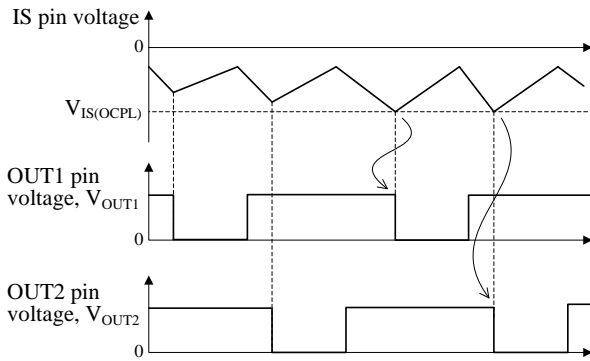

Figure 8-15 OCP operation by  $V_{IS(OCPL)}$
- 2) When both  $V_{OUT1}$  and  $V_{OUT2}$  are High, the output which is set to High ahead is set to Low as shown in Figure 8-15.